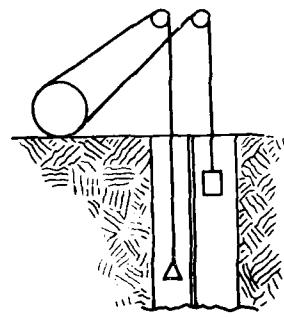

Figure 7
- two ropes with a conveyance and a counterweight. (See Figure 7)